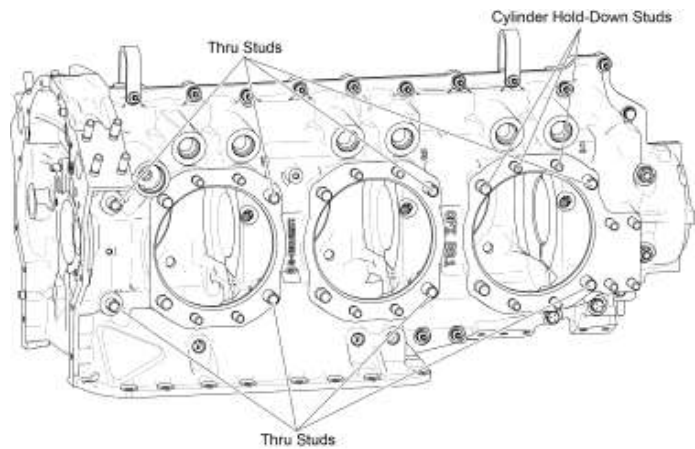

Figure 95
(9) Install thru-studs on the crankcase in the specified locations in Figure 95 where the studs extend equally on both sides of the crankcase. (An optional Crankcase Thru-Stud Driver ST-317 can be used to install thru-studs.)